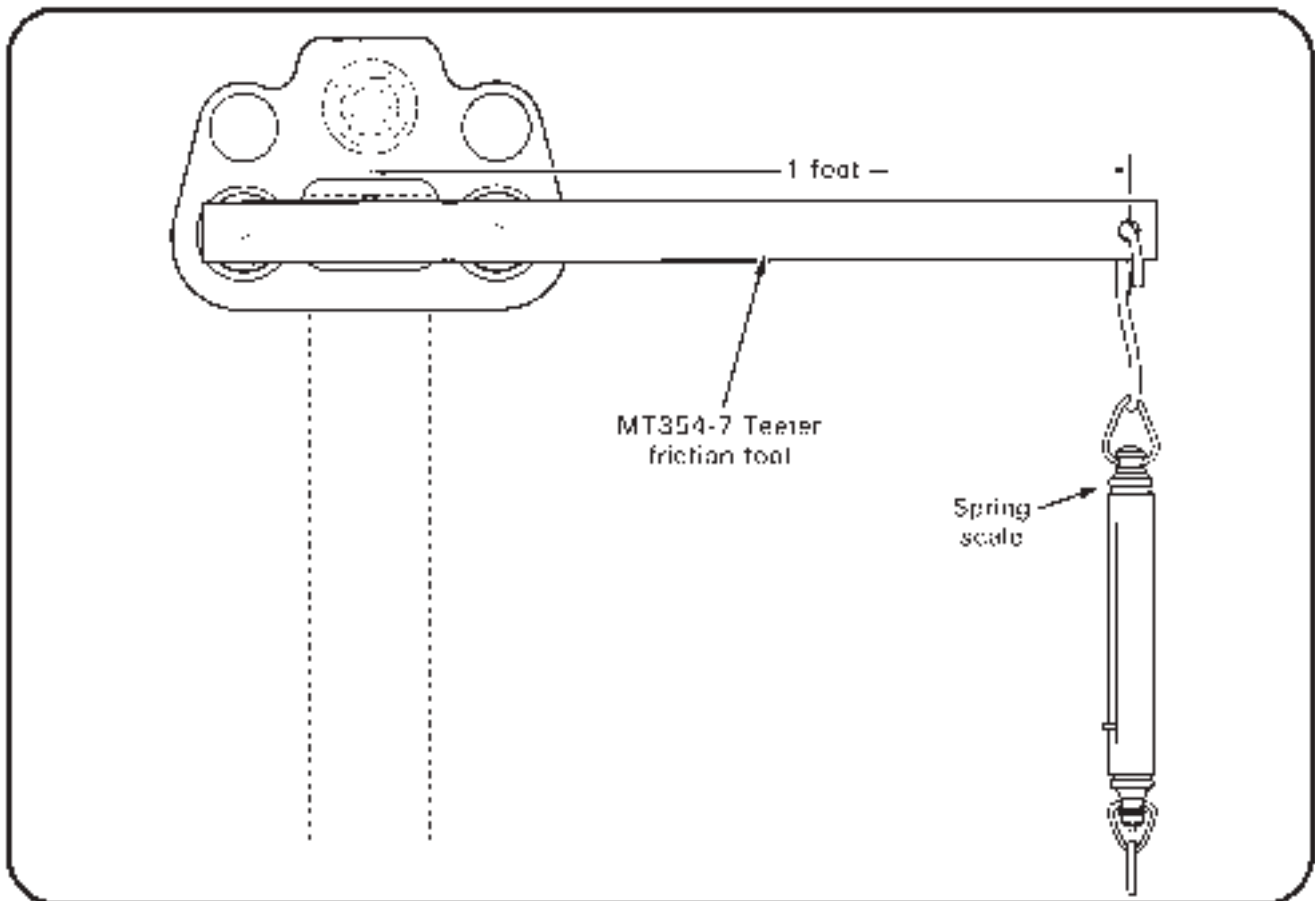

FIGURE 9-8 MEASURING TEETER HINGE FRICTION
3. If same hub will be installed, measure teeter hinge friction per Figure 9-8 and record value.
3. Refer to Figure 9-8. While torquing teeter hinge bolt per § 1.330, check teeter hinge friction frequently. To check friction, install MT354 teeter friction tool into coning hinge bearings on one side of main rotor hub and measure moving force (not breakaway force) required to teeter main rotor hub with a spring scale.